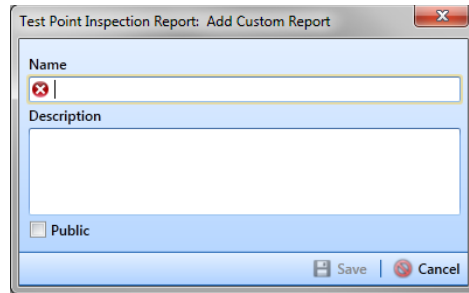

Figure 15-28. Add Custom Report
- 2 Click **Reports/Graphs**, navigate to a report in the list, then click  **Add Report** to open the *Add Custom Report* dialog box (Figure 15-28, page 645).